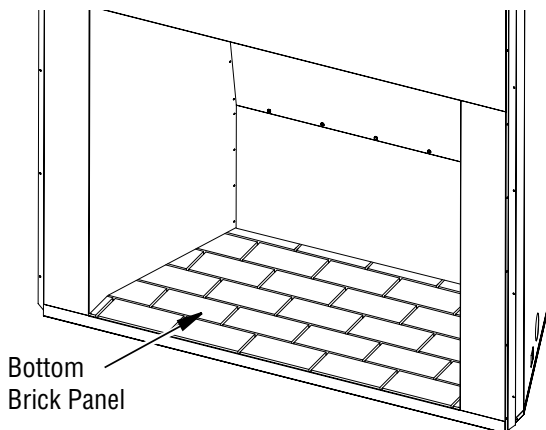

Figure 28 - Installing Bottom Brick Panel
1. Install bottom brick panel. Using at least two people, hold bottom brick panel by its side edges. Place the back edge of bottom panel into the firebox first and carefully lower the front edge of panel. Make sure bottom panel is centered in the firebox and flush with the front of the fireplace. Be careful not to pinch your fingers between the panel and firebox (Figure 28).